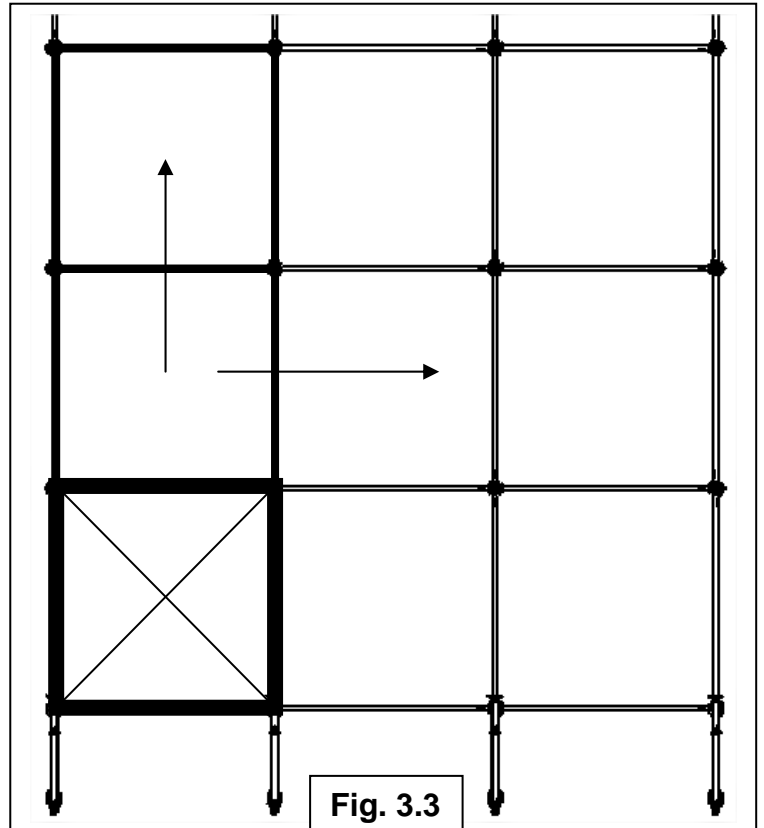

Fig. 3.3
B. Begin connecting the Horizontals in one corner of the structure, creating a four-sided bay. Then expand on this bay along the side, then along the length until the entire structure is connected (see Fig. 3.3).